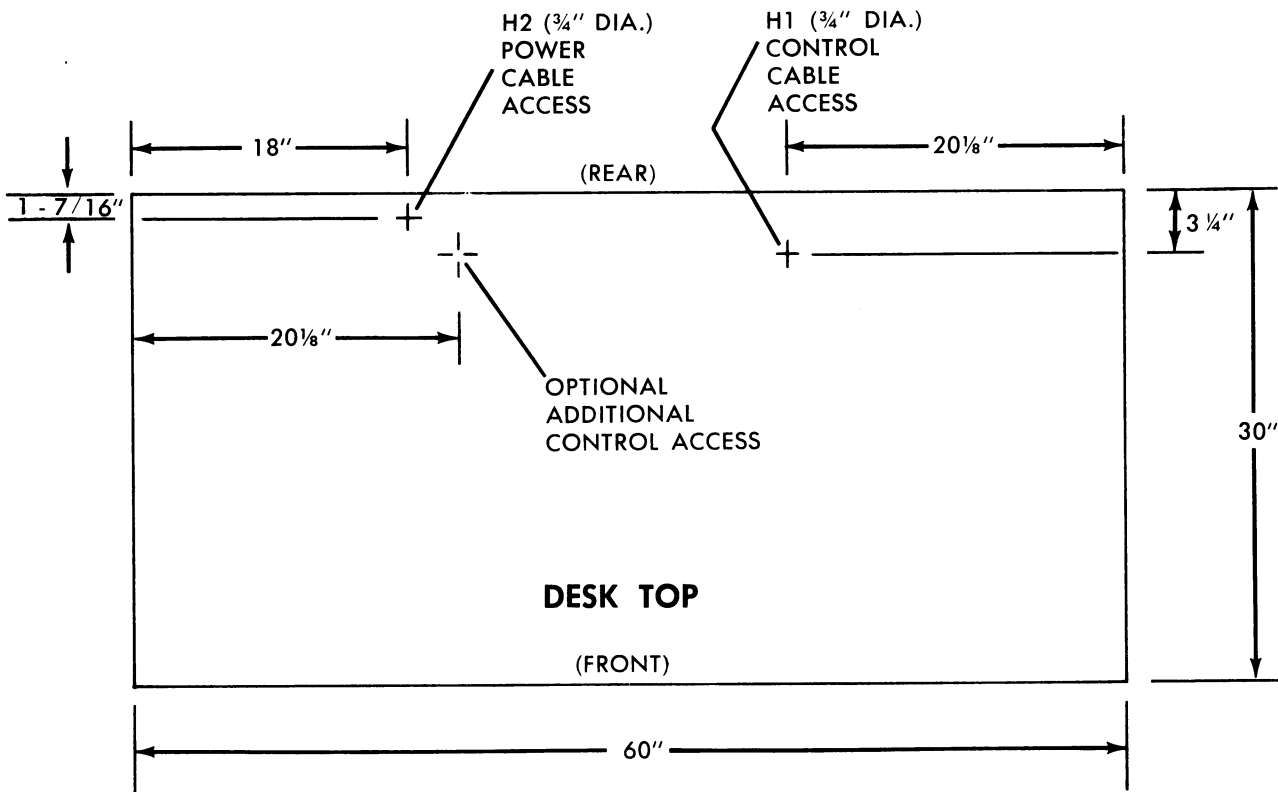

Figure 1 - Drill Plan for Cable Access Holes
1. Drill two 3/4 inch diameter cable access holes (H1 and H2) in the desk top as shown in Figure 1.